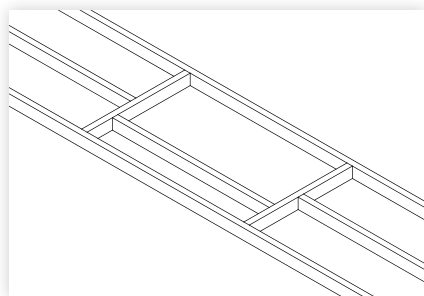

figure 3
2. Frame up the opening using minimum **190mm x 45mm** framing timber (H1.2 treated, machine gauged radiata pine or similar). It may be necessary to cut through some existing ceiling joists to achieve the required size. Ensure these are properly supported during and after cutting. Three possible arrangements are shown in figures 3, 4 & 5.